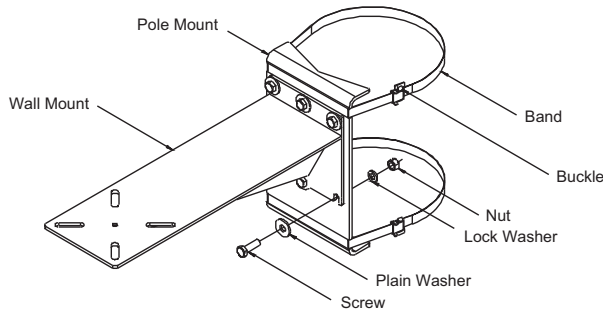

Figure 3: Securing the LTC 9225/00 with an LTC 9216/00 or an LTC 9222/00
- For model LTC 9213/01 with an LTC 1348/00, secure the wall mount to the pole mount using the four (4) No. 6 screws provided. Use the four (4) smaller holes that are in a rectangular pattern.
- For model LTC 9225/00 with an LTC 9216/00 or an LTC 9222/00, secure the wall mount to the pole mount using the six (6) 12 mm screws, plain washers, lock washers and nuts provided (see *Figure 3*).